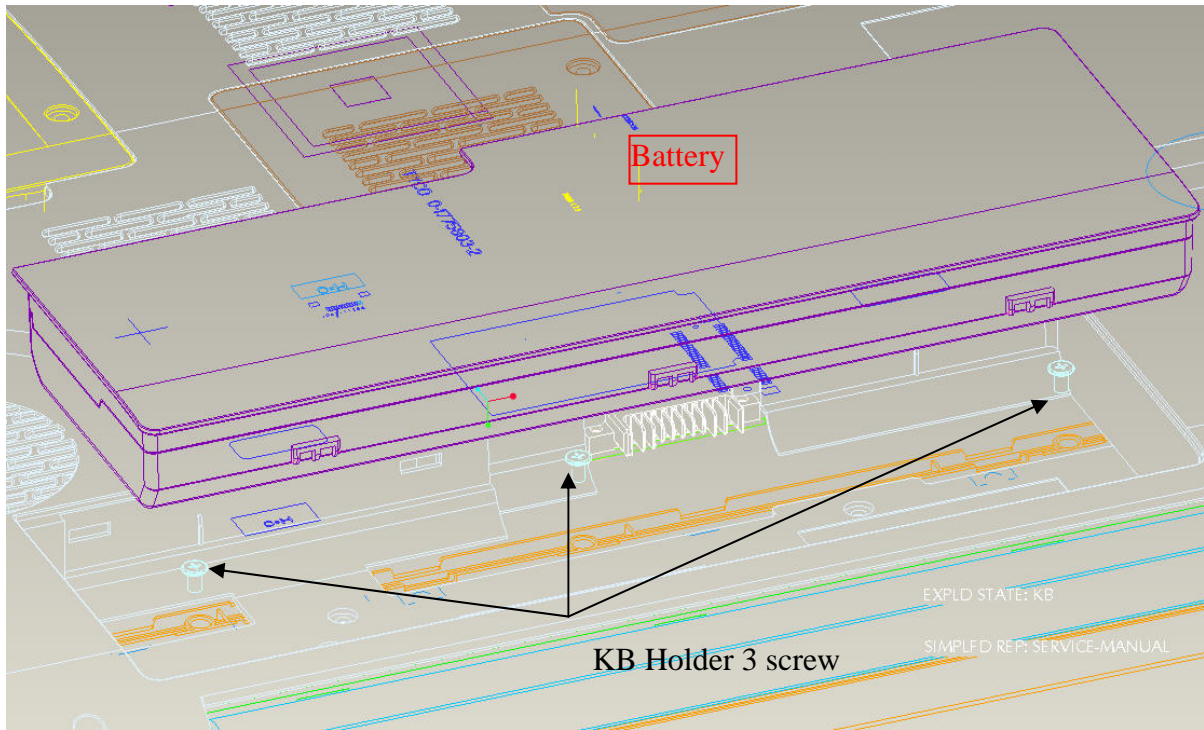
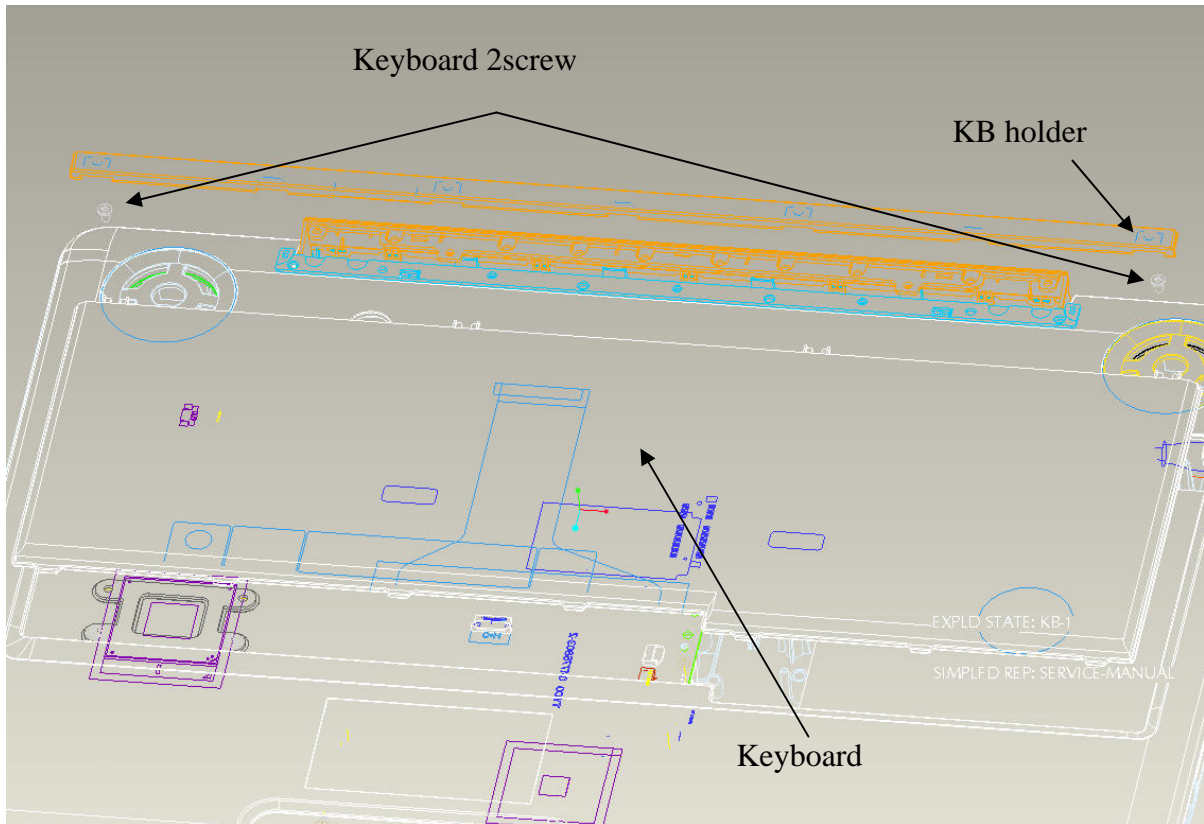

Figure 4-8 Remove screws for KB Holder
Figure 4-9 Remove the keyboard/KB Holder
The following describes the procedure for removing the keyboard (See Figure 4-8 to 4-9).
The following describes the procedure for installing the keyboard (See Figure 4-8 to 4-9).
3. Remove Battery and disassembly **k/b holder** and **keyboard** screw. (please refer figure 4-8,figure4-9).